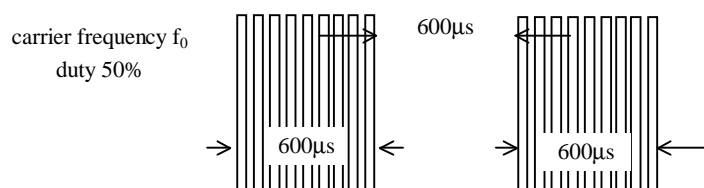

Fig 1. Burst Wave
- (1) Measuring place Indoor without extreme reflection of light.
- (2) Ambient light source... Detecting surface illumination shall be 200±50Lux under ordinary hite fluorescense lamp of no high frequency lighting.
- (3) Standard transmitter ... Burst wave indicated in Fig 1. of standard transmitter shall be arranged to 50mVp-p under the measuring circuit specified in Fig 2.